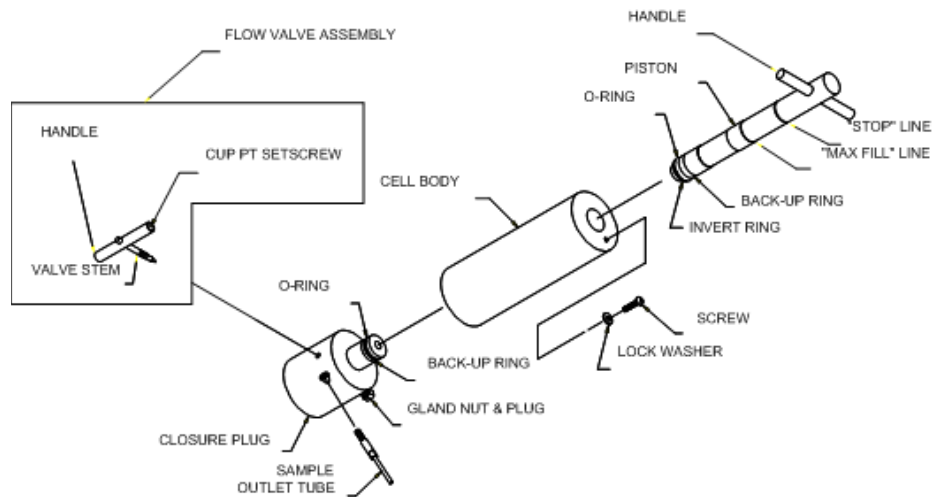

Figure 4-1. Exploded diagram of the 40K Manual-fill assembly
This rapid-fill kit converts to a manual-fill (FA-032) pressure cell into a rapid-fill pressure cell. Use the exploded diagram to reference the parts (see Figure 4-1).
8. Install the remaining parts of the cell: piston, flow valve, sample outlet tube. See Figure 4-1 for a more detailed description of the manual-fill assembly.